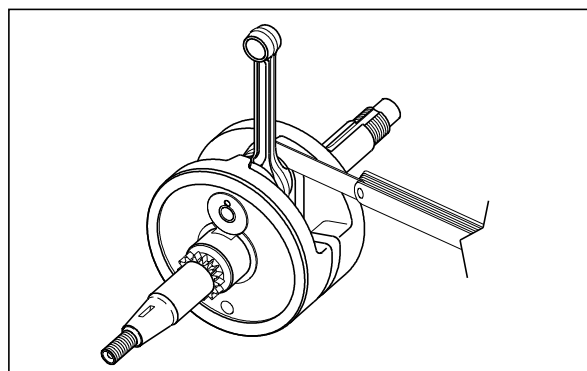

Fig. 3.183
- Measure connecting rod big end side clearance with a feeler gauge. If the clearance exceeds the service limit, replace the crankshaft assembly with a new one. (Fig. 3.183)